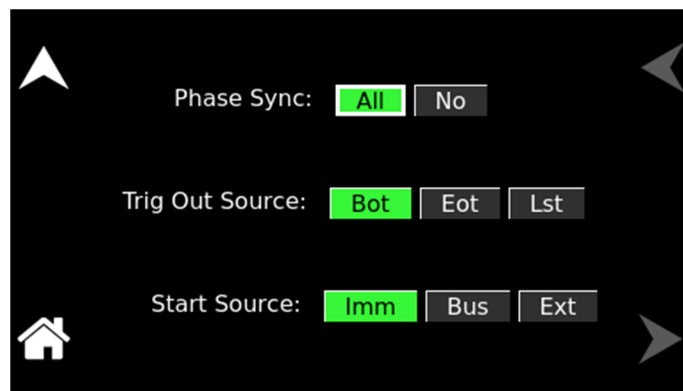

Figure 8-20: Settings Screen – Trigger Sub-Menu
2. Tap on the TRIGGER sub-menu; refer to Figure 8-20. Set the parameter values as follows: